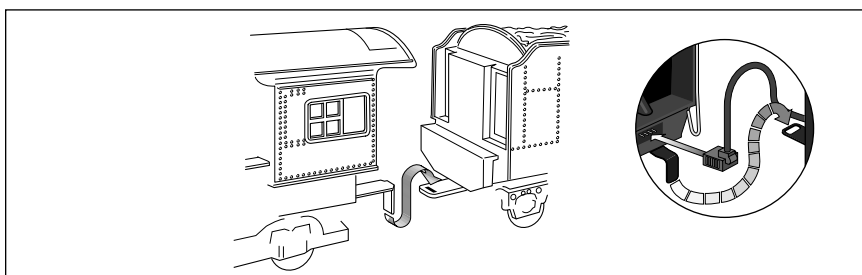

Figure 1. Drawbar connection
2. Connect the drawbar and tether between the locomotive and tender as illustrated in Figure 1.
- 3. Connect the drawbar and tether between the locomotive and tender.** Refer to Figure 1 on page 6.